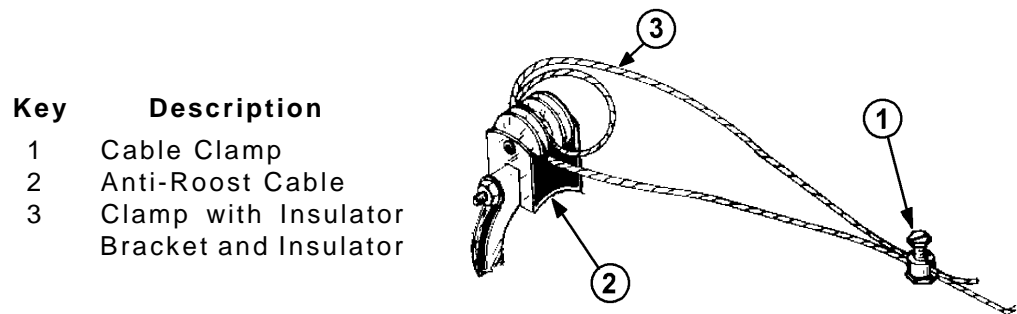

Figure 55. Anti-Roost Cable at the Hopper
2. Start at the hopper end of the line and form a loop around the anti-roost bracket. For best results, make a double loop around the anti-roost insulator in the center groove of the insulator and fasten with a 1/16" cable clamp as shown in Figure 55.